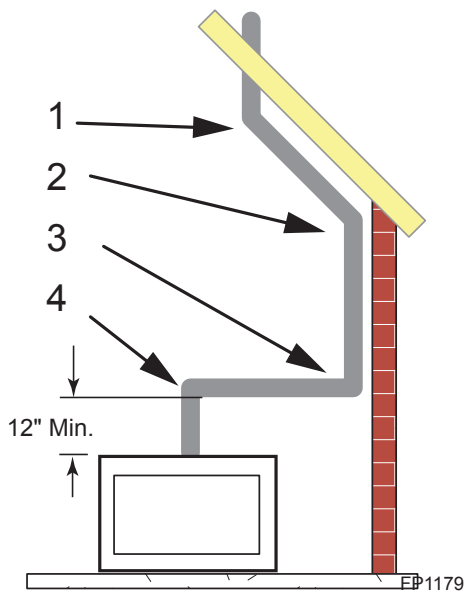

Figure 5.12 - Maximum Elbow Usage
- Two sets of 45° elbows offsets may be used within the vertical sections. From 0 to a maximum of 8' (2.5 m) of vent pipe can be used between elbows. Figure 5.12
- The maximum angular variation allowed in the system is 270°. Figure 5.12